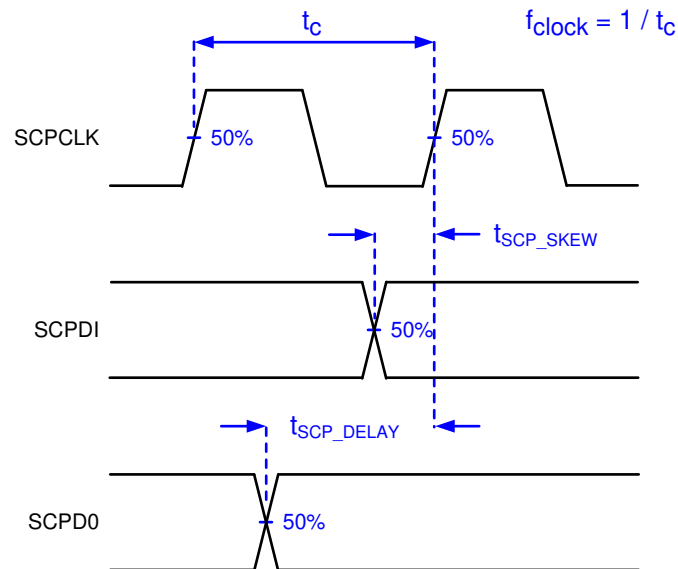

图 6-3. Serial Communications Bus Timing Parameters
- (5) PWRDNZ input pin resets the SCP and disables the LVDS receivers. PWRDNZ input pin overrides SCPENZ input pin and tri-states the SCPDO output pin.
- (6) The SCP clock is a gated clock. The duty cycle shall be  $50\% \pm 10\%$ . SCP parameter is related to the frequency of DCLK.
- (7) Refer to 图 6-3.
- (8) SCP internal oscillator is specified to operate all SCP registers. For all SCP operations, DCLK is required.
SERIAL CONTROL BUS TIMING PARAMETERS (See 图 6-3 and 图 6-4)